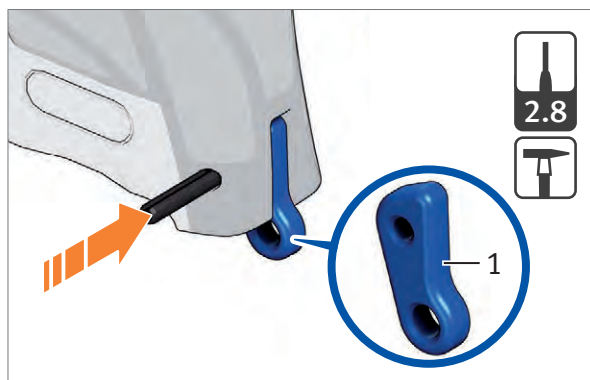

Fig. 22: Insert the mounting for the lanyard
2. Insert the mounting for the lanyard (Fig. 22).
3. Drive in clamping sleeve for back strap (Fig. 22).